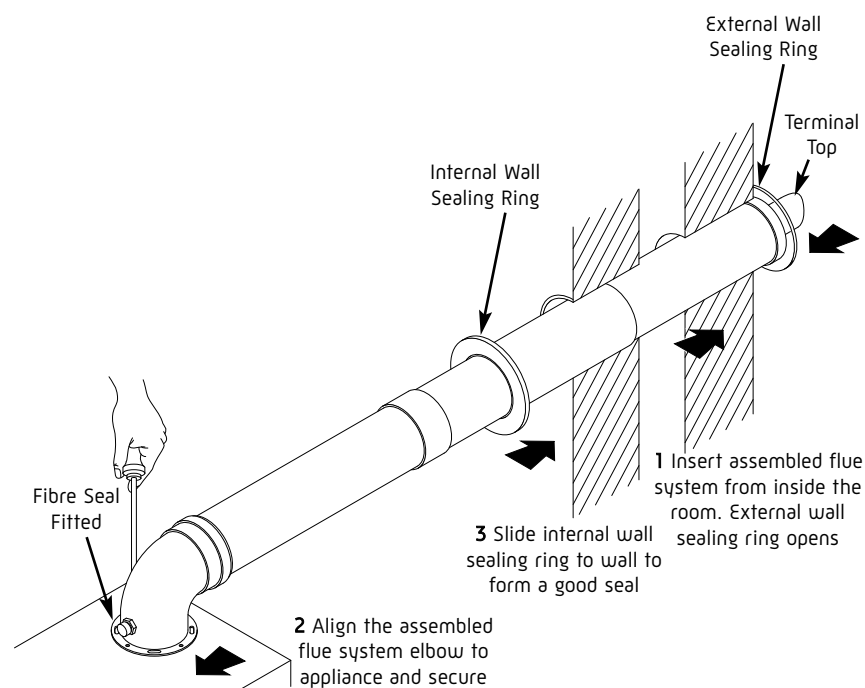

Fig. 30
2. Assemble the flue system extension ducts as necessary, referring to Fig. 30.
4. Use the internal sealing ring to make good the internal hole and check that the terminal is correctly located on the outside wall. Where possible this should be visually checked from outside the building (Fig. 30).